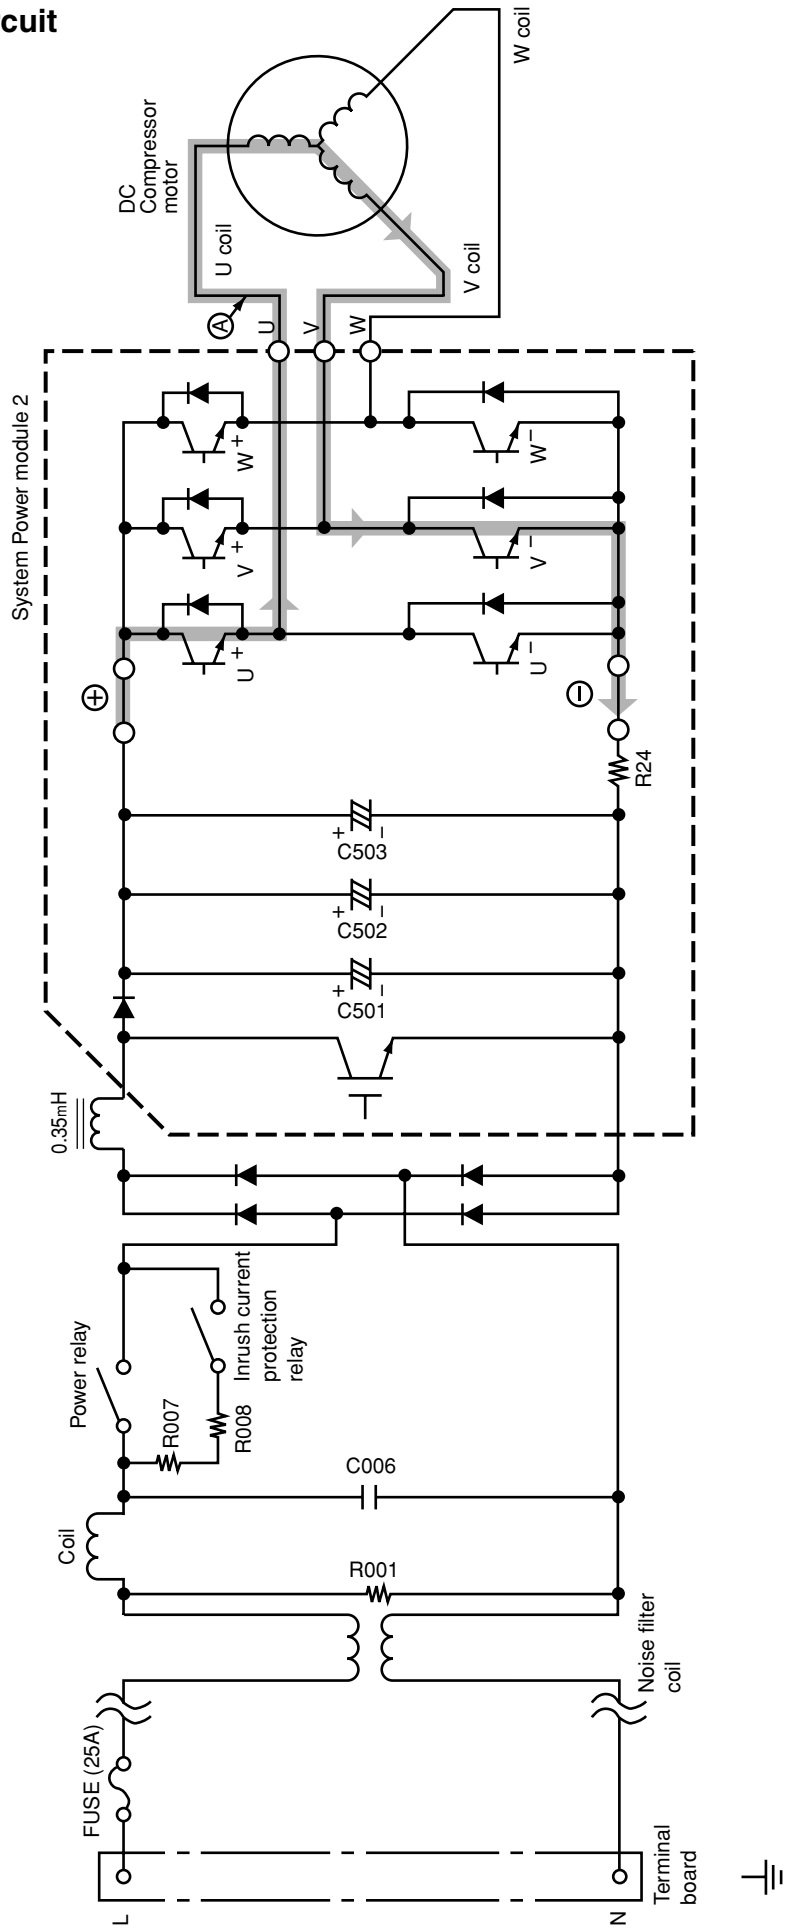
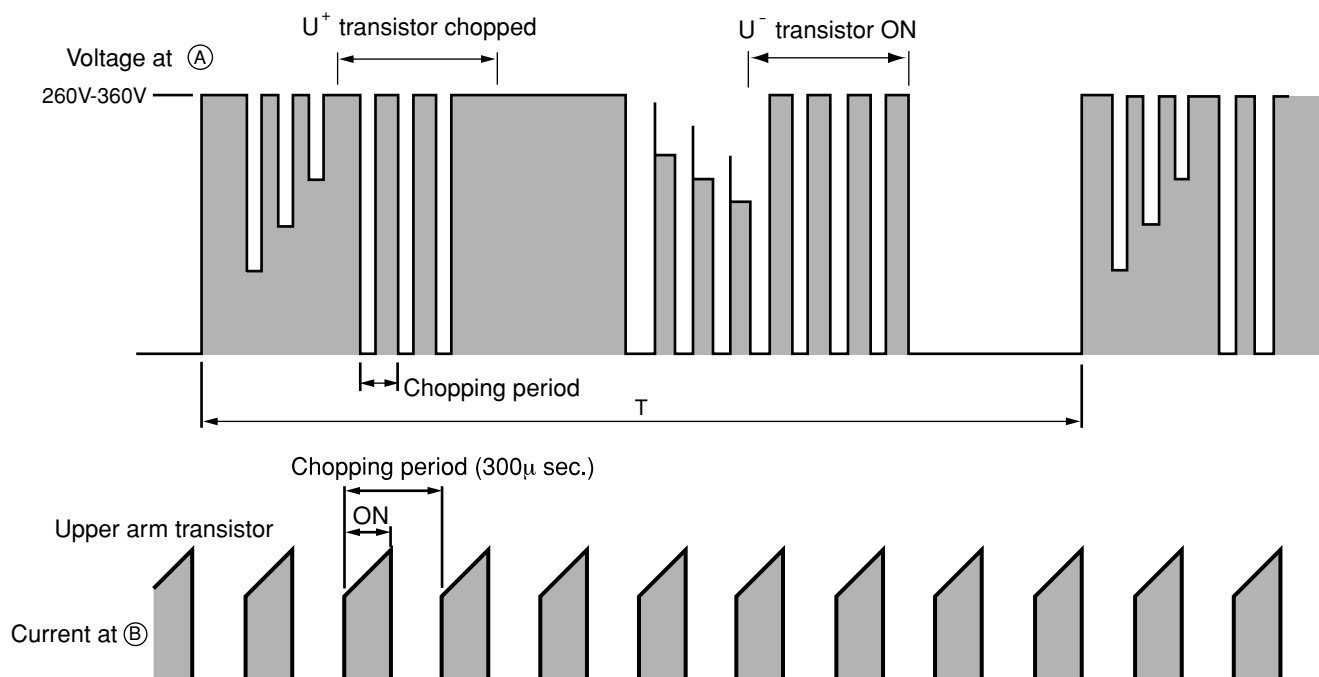

Fig. 3-1 Power module circuit (U⁺ is ON, V⁻ is ON)
Fig. 3-3 Voltage waveform at each point
- Fig. 3-1 shows the system power module and its peripheral circuit.
At point E: U^+ is ON, V^- is ON (circuit in Fig. 3-1)
- Fig. 3-3 shows voltage waveform at each point shown in Figs. 3-1 and 3-4. First half of upper arm is chopper, second half is ON, and first half of lower arm is chopper, second half is ON.
- When power is supplied $U^+ \rightarrow U^-$, because of that U^+ is chopped, current flows as shown below; (B)
- (1) When U^+ transistor is ON: U^+ transistor \rightarrow U coil \rightarrow V coil \rightarrow V^- transistor \rightarrow DC current detection resistor \rightarrow Point (B) (Fig. 3-1)
- Since current flows at point (B) only when U^+ transistor is ON, the current waveform at point (B) becomes intermittent waveform as shown in Fig. 3-3. Since current at point (B) is approximately proportional to the input current of the air conditioner, input current is controlled by using DC current (I_d) detection resistor.